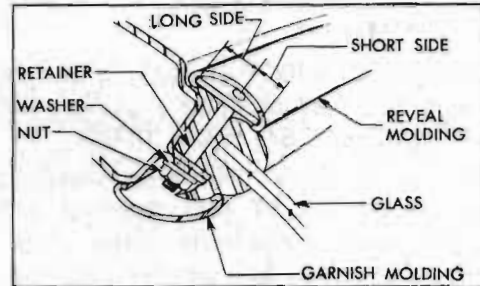

Figure 13-20—Reveal Molding Retainer Installation
Use *new* retainers when installing reveal molding, since old ones have been cut off after installation. Place retainers in molding with *short* side of plate toward the inner or glass side of molding. See figure 13-20.
9. Insert retainers into bolted type reveal molding sections. The short side of retainer plate must be placed toward inner or glass side of molding. See figure 13-20.